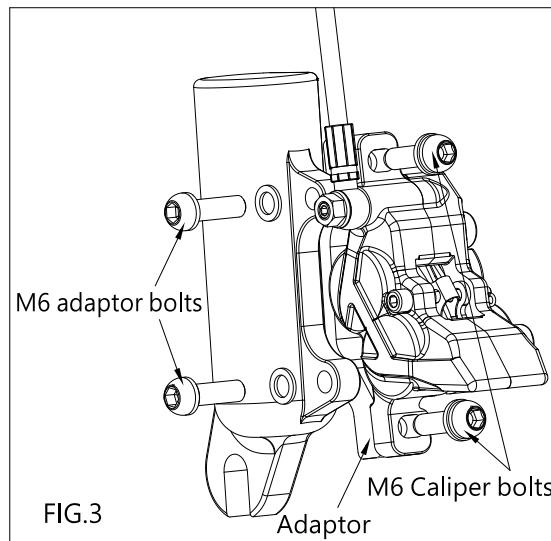

FIG.3
- 1) To install the Bengal post mount hydraulic disc brake, place an appropriate adaptor on the front fork or frame using M6 adaptor fixing bolts & washers, at a torque of 8~10Nm (71~89 in. lbs.). (FIG.3)
- 1) Install the post mount calipers on the adaptor by tightening the M6 caliper fixing bolts and washers loosely. The calipers should be able to swivel a little left and right, used for fine tuning and adjusting their position. (As shown in FIG. 3)